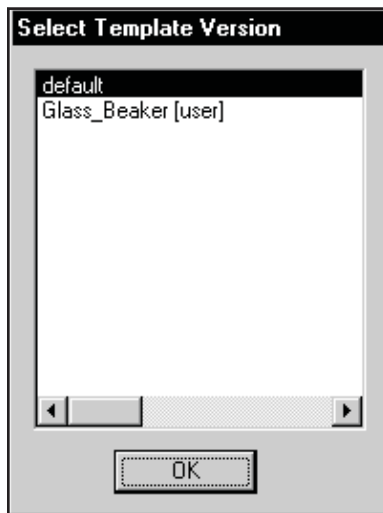

Figure 181 Selecting a User-defined Template.
3. This will display the dialog shown in Figure 181, where you can select the custom definition you just saved as your base template, then continue as described in "Detector and End Cap" on page 253.